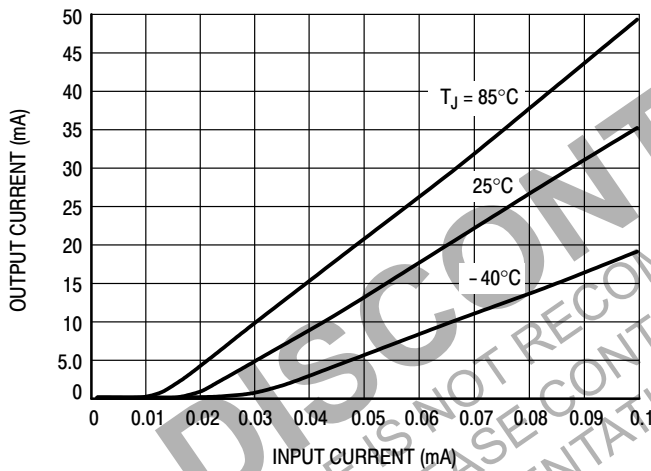

Figure 4. Threshold Effects
5. For levels of input current below $100\ \mu\text{A}$, use the input threshold curves of Figure 4 to verify that there will be adequate input current available to turn on the MDC3105 at all temperatures.